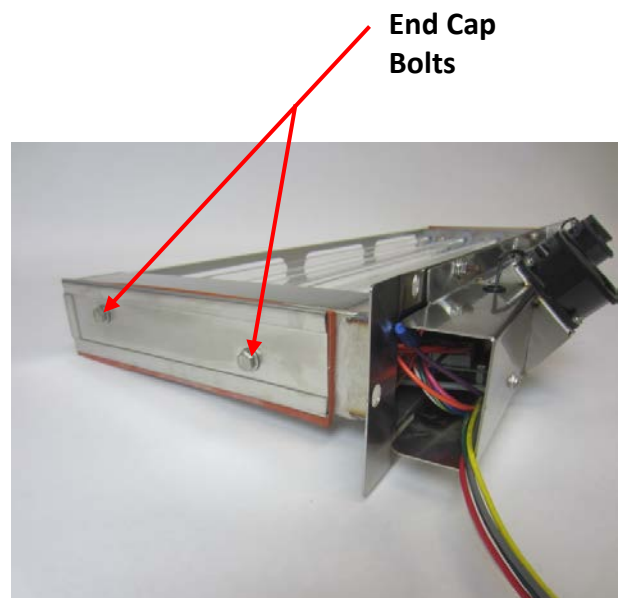

Figure 6-9-4
7. Next, remove the Module End Caps from each end of the Module. Using a box or open end wrench, hold the End Cap Nut on the back side of the end (Refer to Figure 6-9-3) while backing out the End Cap Bolt from the front side of the End Cap (Refer to Figure 6-9-4). There is a retainer washer on the back side of the End Cap that prevents the bolt from sliding out of the End Cap.